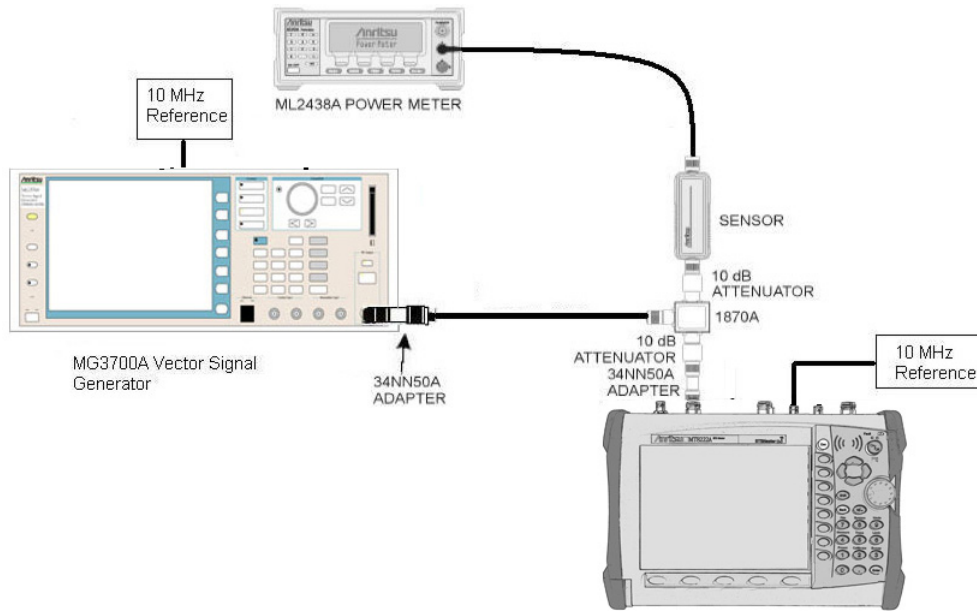

Figure 5-5. WCDMA Occupied Bandwidth (OBW) Verification
3. Connect the MG3700A, splitter, attenuator, power meter, and sensor as shown in Figure 5-5.
4. Press the **On/Off** key to turn on the MT8222A and wait until the measurement display appears then press the **Shift** key then press the **Mode** (9) key to activate the mode selection menu.
6. Press the **Shift** key, the **Preset** (1) key, and then the Preset submenu key.
3. Connect the MG3700A, splitter, attenuator, power meter, and sensor as shown in Figure 5-5, “WCDMA Occupied Bandwidth \(OBW\) Verification” on page 5-20.